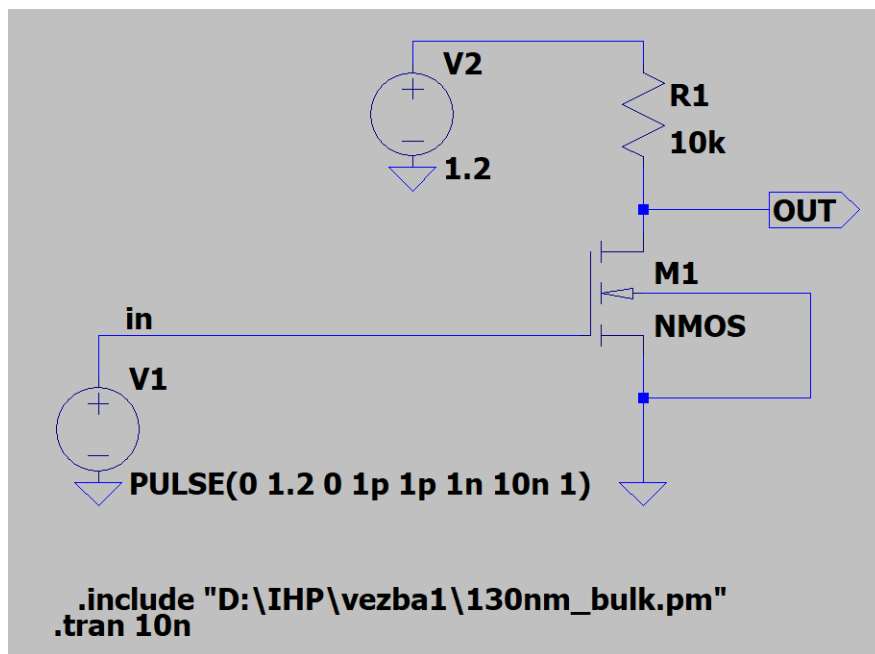

Fig. 3. NMOS circuit schematic
2. After starting the program, open a new schematic (File / New Schematic) and draw a circuit with the NMOS transistor given in Fig. 3. In addition to the highlighted symbols in the palette at the top of the window, the symbols of all components can be reached by clicking on the  (Components) icon. For NMOS transistor use symbol NMOS4, and for generators Voltage. Setting the component values is done by right-clicking on the component symbol. Set the values of generator V2 to 1.2V and resistor R1 to 10k Ω .